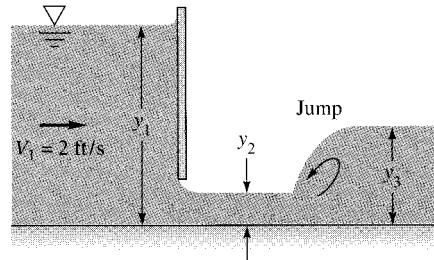

Fig. P10.84
**10.84** Consider the flow under the sluice gate of Fig. P10.84. If  $y_1 = 10$  ft and all losses are neglected except the dissipation in the jump, calculate  $y_2$  and  $y_3$  and the percentage of dissipation, and sketch the flow to scale with the EGL included. The channel is horizontal and wide.
**10.88** For the situation in Fig. P10.84, suppose that at section 3 the depth is 2 m and the Froude number is 0.25. Estimate (a) the flow rate per meter of width; (b)  $y_c$ ; (c)  $y_1$ ; (d) the percent dissipation in the jump; and (e) the gap height  $H$  of the gate.